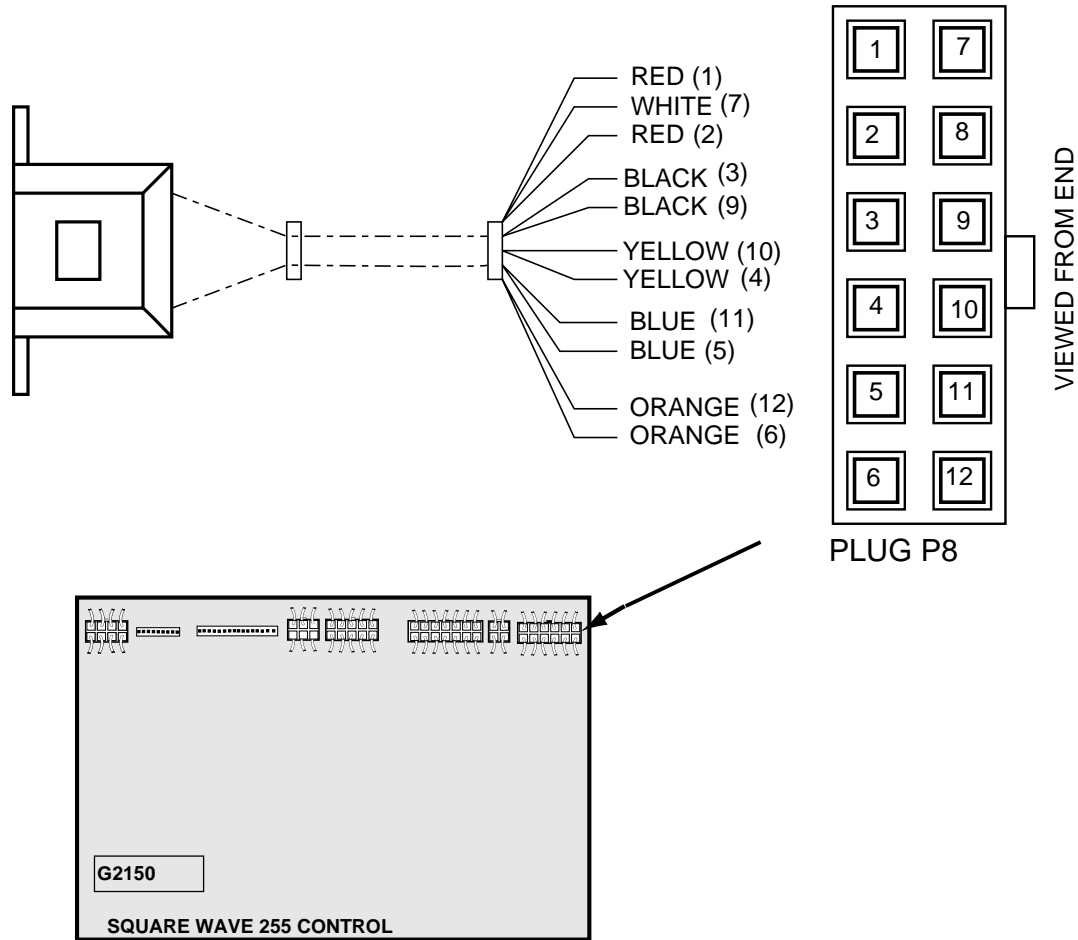

FIGURE F.4 - CONTROL BOARD AND TRANSFORMER.
8. Test for the correct AC voltages at Plug 8. See Figure F-4.